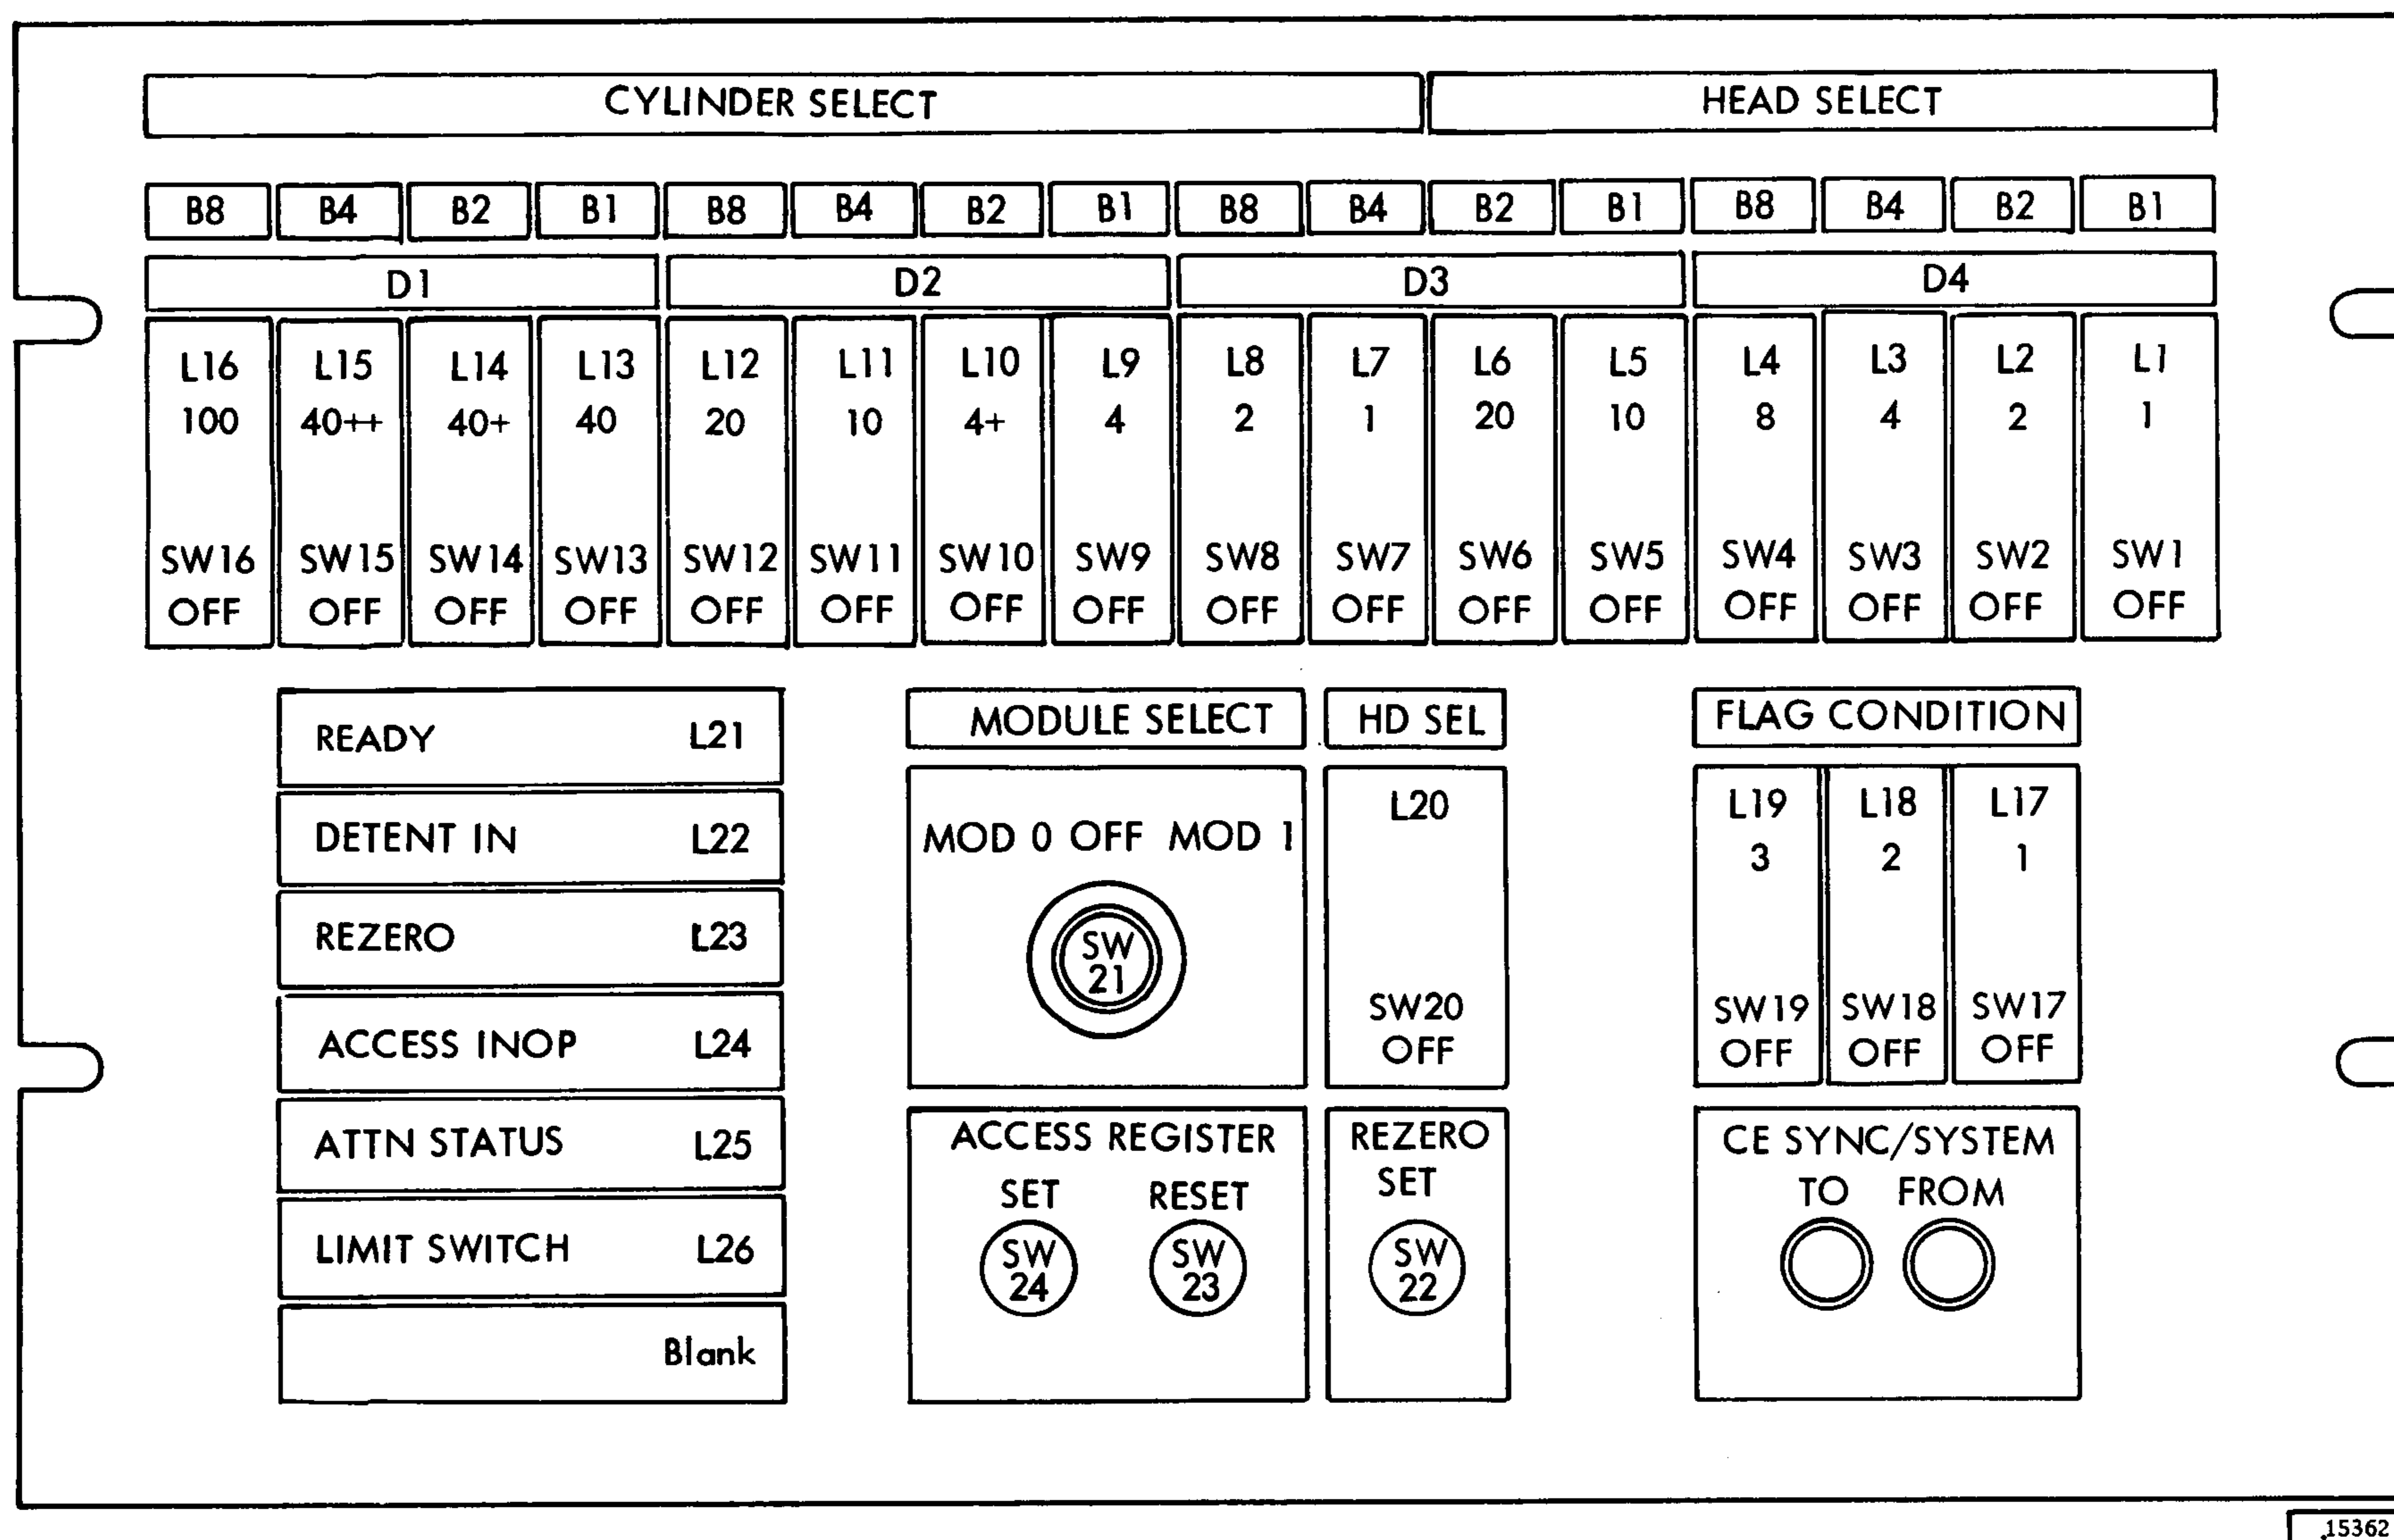

Figure 2-1. CE Test Control Panel
2.2 CE TEST CONTROL PANEL (Figure 2-1)